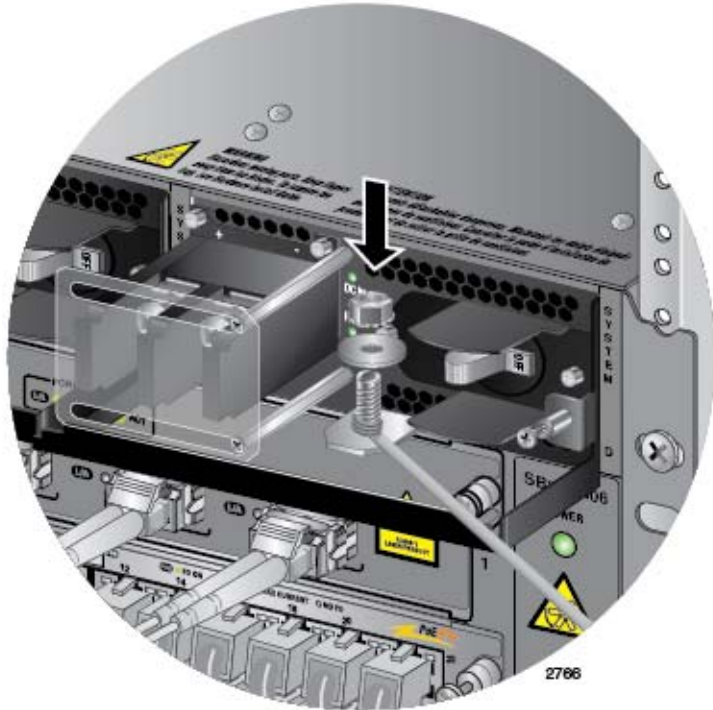

Figure 133. Securing the Bare Grounding Wire to the Grounding Post
4. Secure the wire with the nut and washer removed in step 2, and an 8 mm wrench, as shown in Figure 133 on page 195.